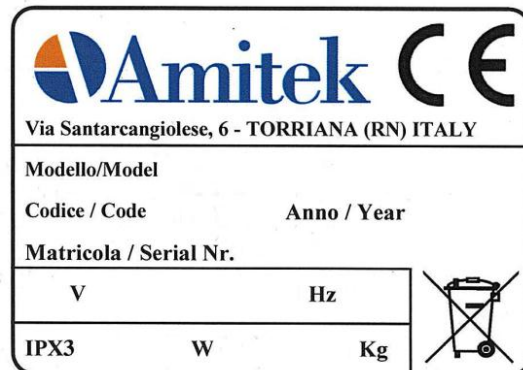

Fig.1
Read carefully the instructions given in this booklet. Before connecting the appliance make sure that the data shown on the technical plate (Fig.1), corresponds with that of the mains power supply. Before carrying out any operation, insulate the appliance from the mains power supply. The installation must be carried out by professionally trained personnel in accordance with the instructions of the manufacturer and current regulations.
1. The identifying and technical plate is fixed to the back of the appliance (Fig.1).